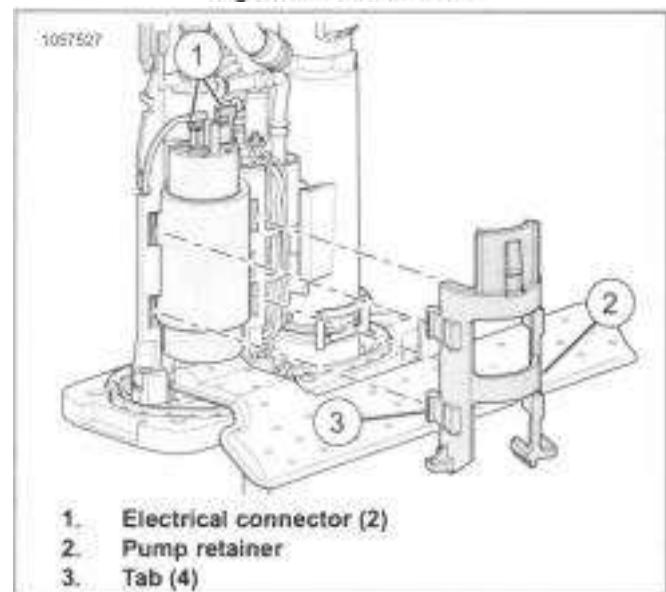

Figure 6-23. Fuel Pump
- See Figure 6-23. Remove pump retainer.
- Press tabs (3) to release pump retainer (2).
- Disconnect electrical connectors (1).
2. Install fuel pump spacer (3) and, O-ring (2).
3. Install lower isolator (1).
4. Install pump (4).
5. See Figure 6-23 Connect electrical connectors (1).
6. Install pump retainer (2).